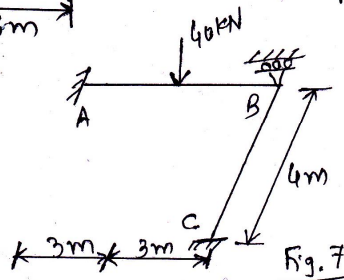

Fig. 7
- Q.5** (a) Obtain the rearranged joint stiffness matrix for the grid shown in Figure 7. 07
structure shown in Figure 7 using stiffness member approach.